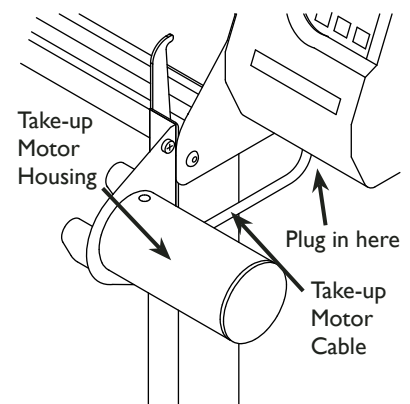

Figure 13. Plug the take-up motor cable into the printer head.
5. Plug the take-up motor cable into the socket on the bottom of the right cover and rotate the locking collar until it stops (**Figure 13**). Gently pull on the cable to ensure that the plug is securely fastened.